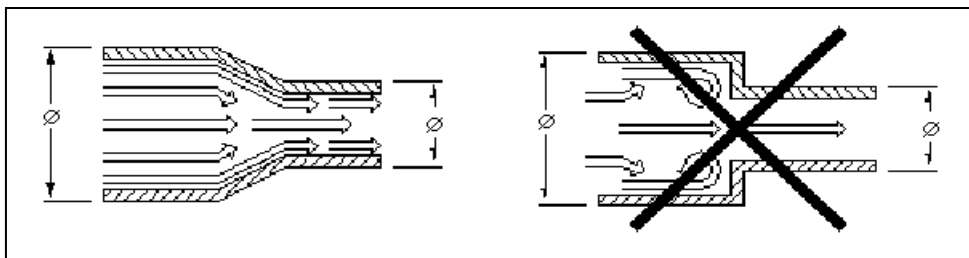

fig. 4
- c) If changes in diameter should become necessary in the duct, make the fitting by using the appropriate reducer cones in order to avoid sudden section changes with subsequent decrease of system extraction capacity (fig. 4).